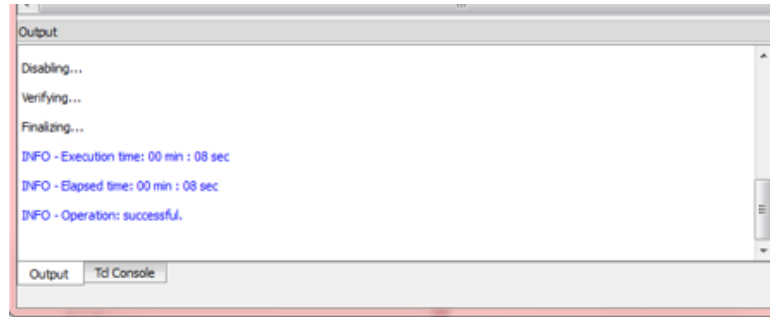

Figure B.5. Output Console
6. After successful programming, the **Output** console displays the results as shown in Figure B.5